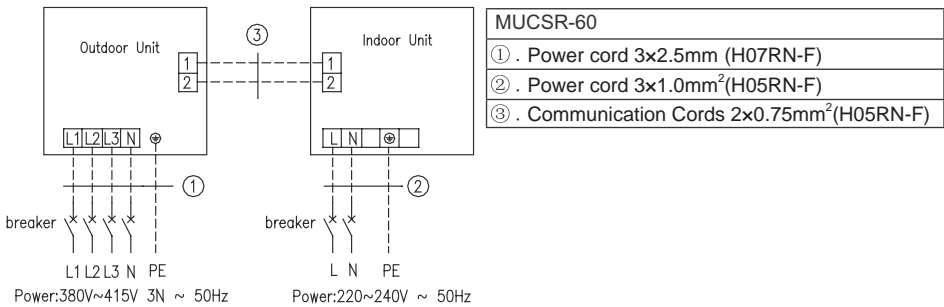

Fig.42
- ① . The power cord and the wire of the fresh air valve are high-voltage, while the communication cord and connection wire of the wired controller are low-voltage. They should run separately against electromagnetic interference.
- ② . The high-voltage and low-voltage lines should pass through the rubber rings at different electric box covers.
- ③ . Do not bundle the connection wire of the wired controller and the communication cord together, or arrange them in parallel, otherwise improper operation would occur.
- ④ . The high-voltage and low-voltage lines should be fixed separately and securely, with internal big clamps for the former and small clamps for the latter.
- ⑤ . Tighten the indoor/outdoor connection cord and power cord respectively on the terminal boards with screws. Faulty connection may cause a fire.
- ⑥ . If the indoor unit connection cord (to the outdoor unit) and power supply are wired incorrectly, the air conditioner may be damaged.
- ⑦ . Connect the indoor unit connection cord properly based on the corresponding marks as shown in Fig.42.
- ⑧ . Ground both the indoor and outdoor units by attaching a ground wire.
- ⑨ . Unit shall be grounded in compliance with the applicable local and national codes.